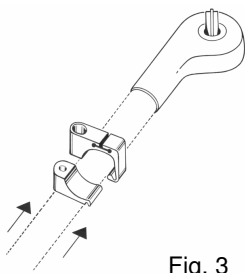

Fig. 3
1. Apply the upper and lower part of the fixation clamp to the shank of the angular screwing instrument, push against each other and grip as indicated in Figs. 3 and 4.